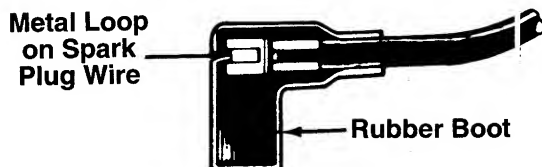

FIGURE 12.
1. Attach spark plug wire to spark plug. Make certain the metal loop on the end of the spark plug wire (inside the rubber boot) is fastened securely over the metal tip on the spark plug. See figure 12.